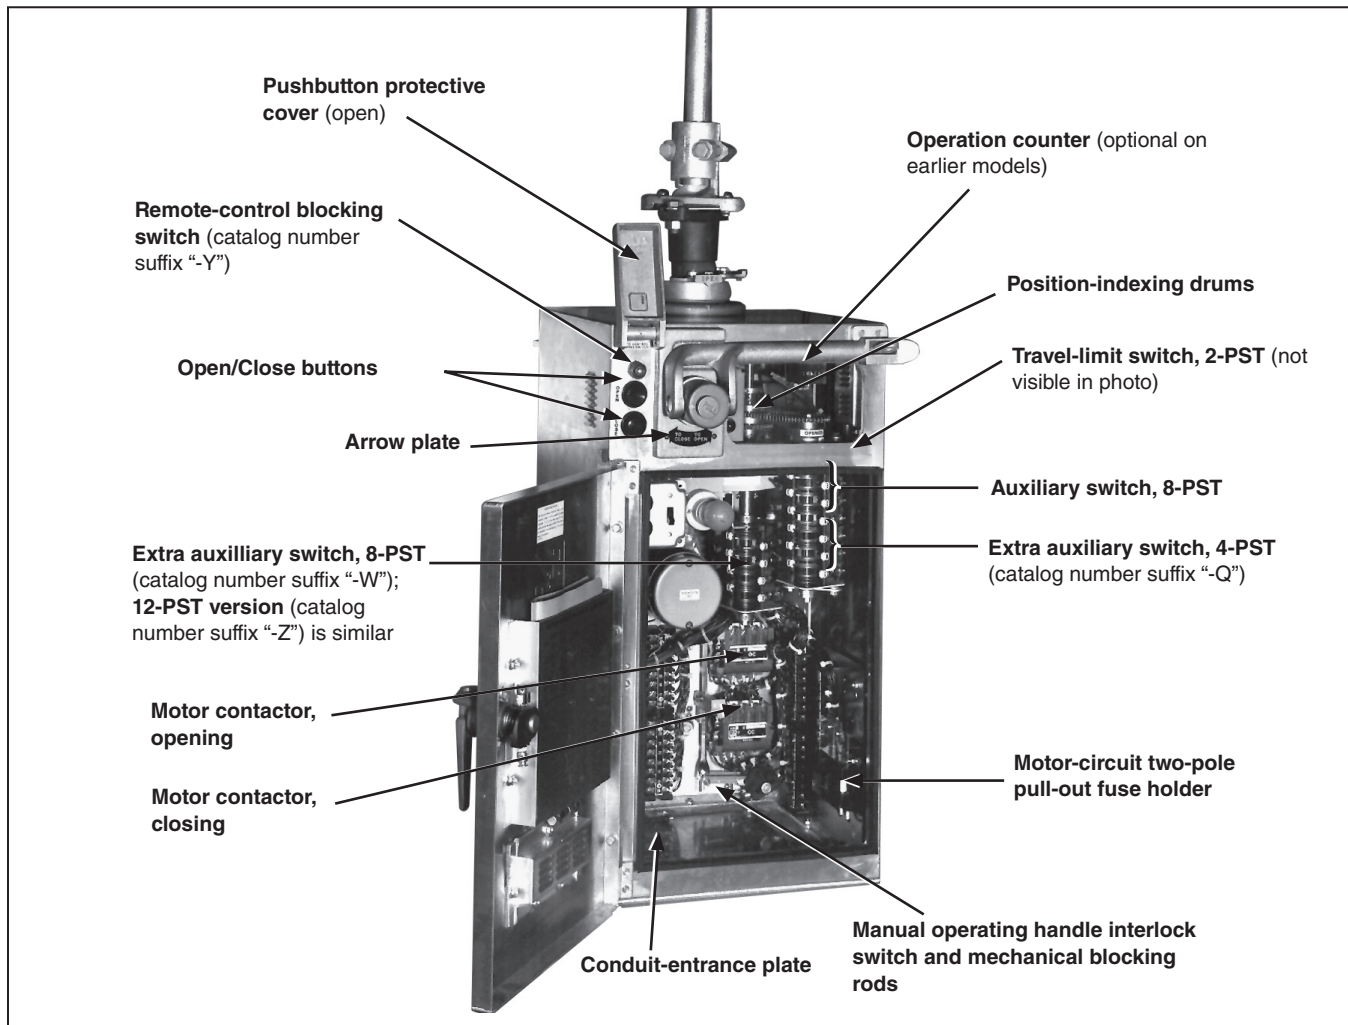
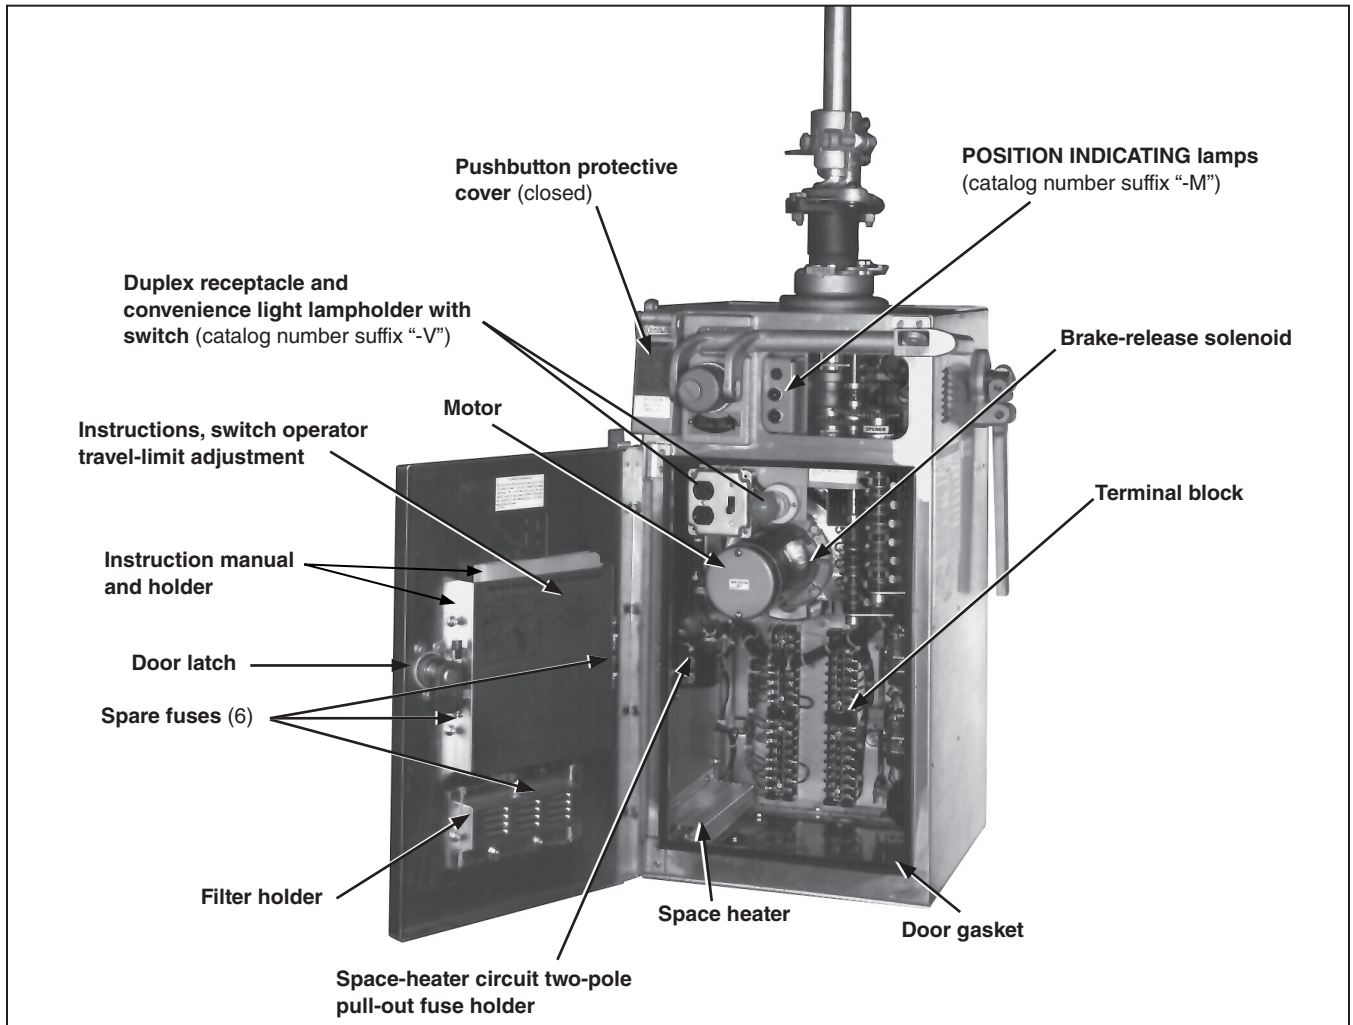

Figure 3. An interior view of a Type AS-1A Switch Operator with the door open.
Figure 4. An interior view of a Type AS-1A Switch Operator.
To avoid accidental energizing of the operator after the external connections have been completed, remove the two-pole pull-out fuse holders for the motor and space heater. See Figure 3 on page 10 and Figure 4 on page 11. Reinsert the fuse holders only when indicated in the steps that follow.
- STEP 1.** Mark the conduit-entrance location for the control-circuit wiring on the conduit-entrance plate in the bottom of the switch operator enclosure. See Figure 3 on page 10.
STEP 5. The cranking direction to close the Alduti-Rupter Switch is indicated by an arrow plate located near the hub of the manual operating handle. See Figure 3 on page 10. This direction is normally predetermined from the erection drawing for the specific installation and factory-set accordingly. The direction of rotation of the switch operator motor is also normally set at the factory.